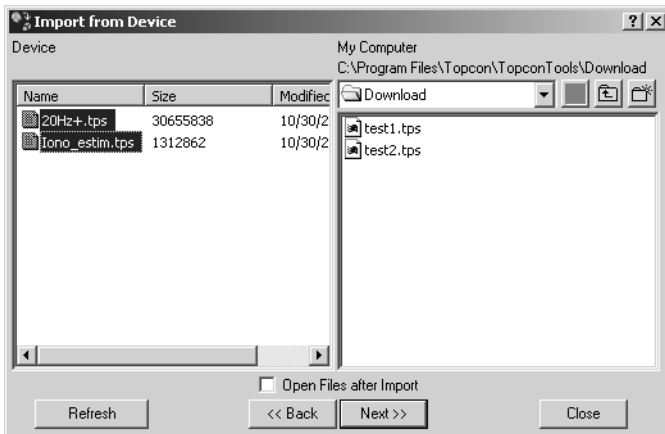

Figure 2-8. Select Files to Import
6. In the left panel, select the desired file(s) (hold the **Shift** key to select multiple files) (Figure 2-8).